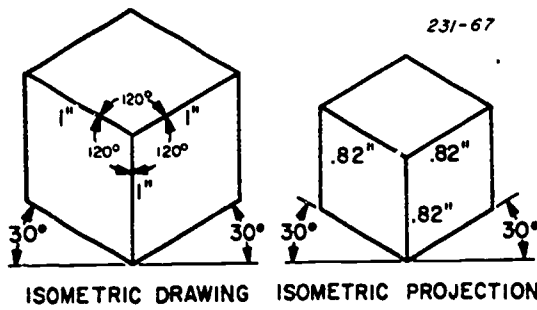

Figure 4-57. Isometric views compared.
drawings instead of true isometric projections. Figure 4-57 shows the comparison between an isometric drawing and an isometric projection. When the axes measurements are drawn full size using a regular scale, the isometric drawing is about 22.5 percent larger than the true projection. It is much more practical to use an isometric drawing than it is to use an isometric projection, since measurements can be made much more easily. However, when a projection is required, it is easier to construct the isometric by isometric measurements than it is by the actual projection method. The following is a method you use to construct an isometric scale if the correct scale is not available to you.
**Isometric drawing.** Remember, the only difference between an isometric drawing and an isometric projection is the scale used. Refer again to figure 4-57. Note that the isometric projection was “drawn” with an isometric scale, and the drawing with a regular scale. Isometric drawings are built on a skeleton of three lines representing the three principal edges or axes of a cube. All measurements are made along these axes or lines parallel to them (isometric lines). The location of nonisometric lines and other points must be found by coordinate measurements which are made parallel to the isometric axes. (Only isometric lines and planes are